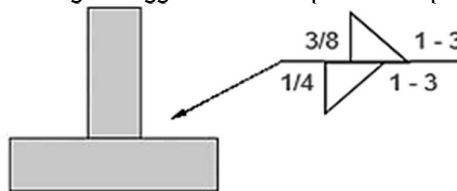

Fig. 1
- Q.6(a) What does the welding symbols of Fig. 1 suggest to do? Explain with proper illustration. [4]